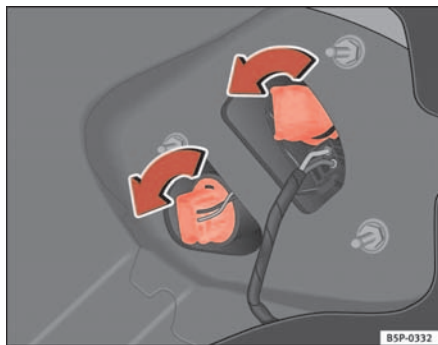

Fig. 188 Lights on vehicle body
- Turn the lamp holder anti-clockwise ⇒ fig. 188.